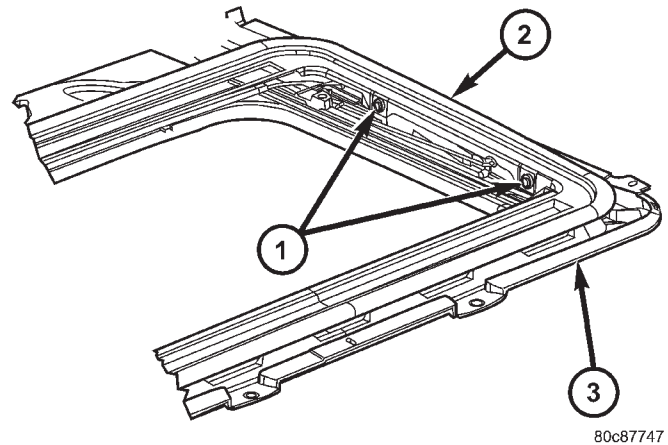

Fig. 2 GLASS PANEL
- (1) Move the sunshade rearward to the open position.
- (2) Move the sunroof glass panel to the fully closed position.
- (3) Adjust the glass one corner at a time.
- (a) Loosen four glass screws (Fig. 2).